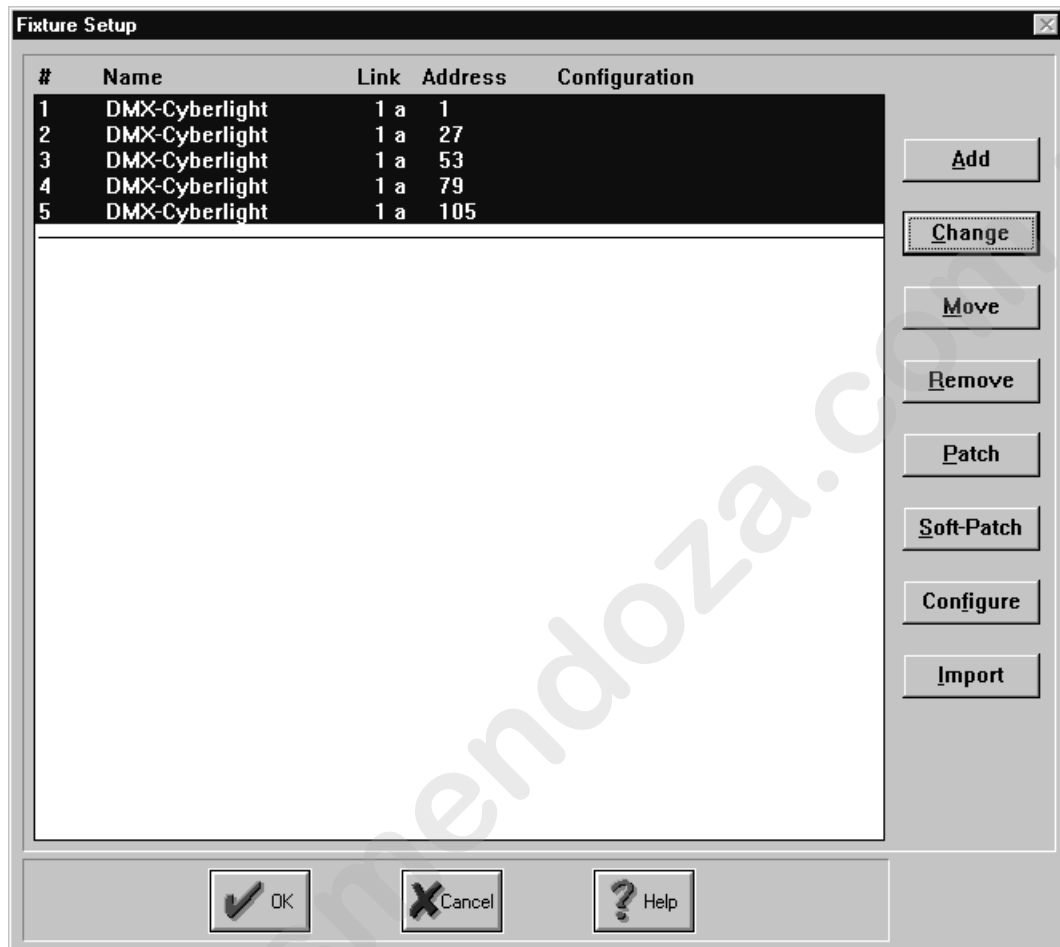

Figure 4.8. Changed Fixture Types Example
4. Click the type of fixture you wish to change to. Click on the **OK** button to return to the **Fixture Setup** window. Refer to Figure 4.7. The **Fixture Setup** window now indicates your changes. Refer to Figure 4.8 for an example.